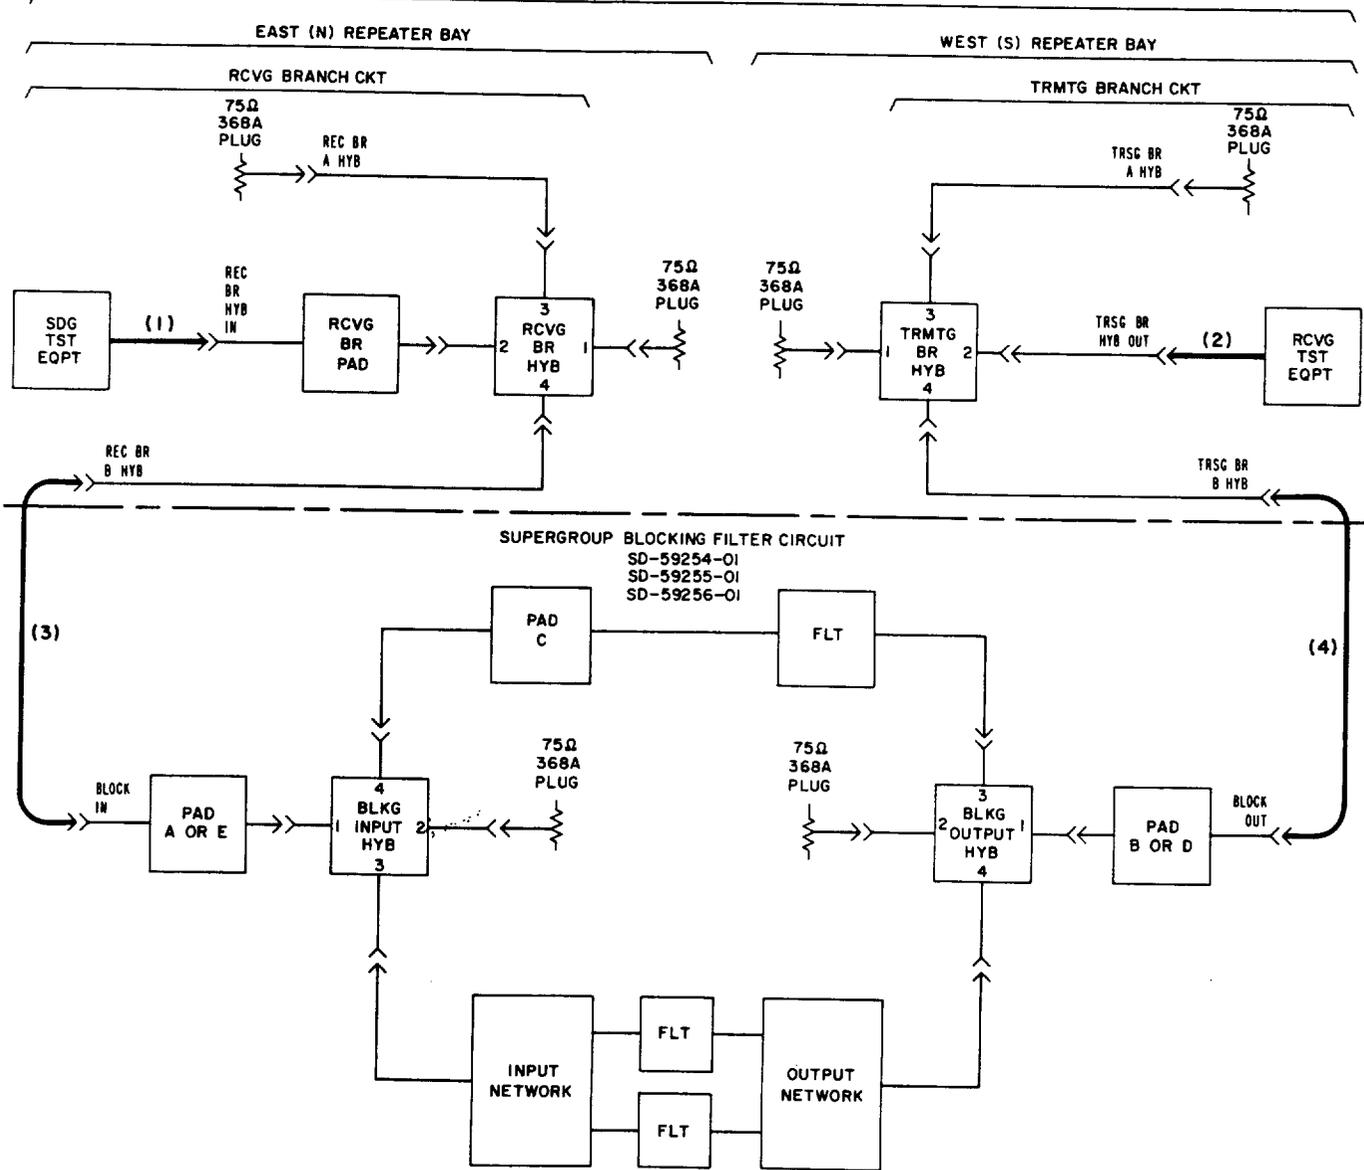

Fig. 1—Transmission Test of Blocking Filters at Branching Points
2	Terminate the REC BRANCH A HYB and TRSG BRANCH A HYB jacks with the 368A terminating plugs as shown in Fig. 1.
6	In the repeater bay jack field, make patches designated (1), (2), (3), and (4) in Fig. 1.